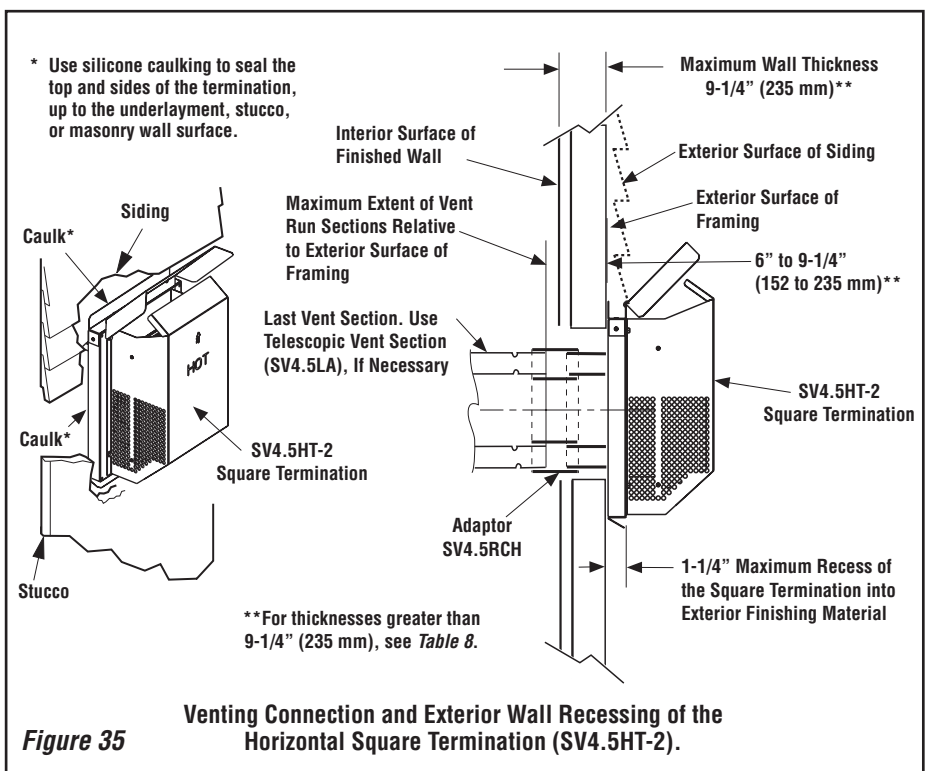

Figure 35
J. Assemble vent run to exterior wall - If not previously measured, locate the center of the vent at the exterior wall. Prepare an opening as described in **Step B**. Assemble the vent system to point where the terminus of the last section is within 7" (178 mm) to 11-1/4" (286 mm) inboard of the exterior surface to which the SV4.5HT termination is to be attached, see **Figure 35**. If the terminus of the last section is not within this distance, use the **telescopic vent section SV4.5LA**, as the last vent section. For wall thicknesses greater than that shown in **Figure 35**, refer to **Table 8 on Page 25**. This table lists the additional venting components needed (in addition to the termination and adaptor) for a particular range of wall thicknesses.
1. Install the square termination (SV4.5HT-2)- For the last step, from outside the exterior wall, slide the collars of the termination onto the adaptor (the outer over the outer and the inner inside the inner) until the termination seats against the exterior wall surface to which it will be attached. Orient the housing of the termination with the arrow pointed upwards. Secure the termination to the exterior wall. **The horizontal termination must not be recessed into the exterior wall or siding** by more than the 1-1/4" (32 mm) as shown in **Figure 35**.
Table 8 *NOTE: See Figure 35, page 24 showing wall thickness range when using SV4.5HT-2 termination kit.*